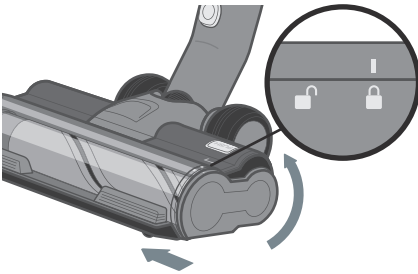

Figure 3.9
4. Insert the roller brush back into the vacuum head. Slide the side panel up to lock it in place [Figure 3.9].